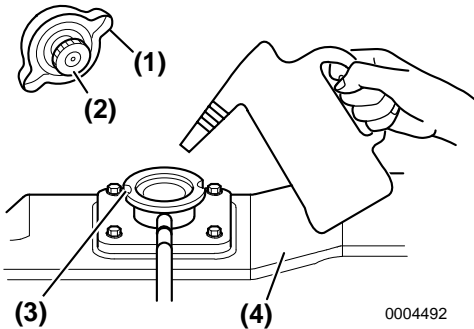

Figure 18
3. NOTICE: *NEVER pour cold coolant into a hot engine.* Pour coolant slowly into the coolant tank (**Figure 18, (4)**) to avoid air bubbles. Fill until coolant overflows from the filler port.
4. Align filler cap tabs (**Figure 18, (2)**) with filler port notches (**Figure 18, (3)**) and tighten filler cap (**Figure 18, (1)**) firmly. NOTICE: *ALWAYS tighten the coolant tank cap securely after checking the coolant tank. Steam can spray out during engine operation if the cap is loose.*